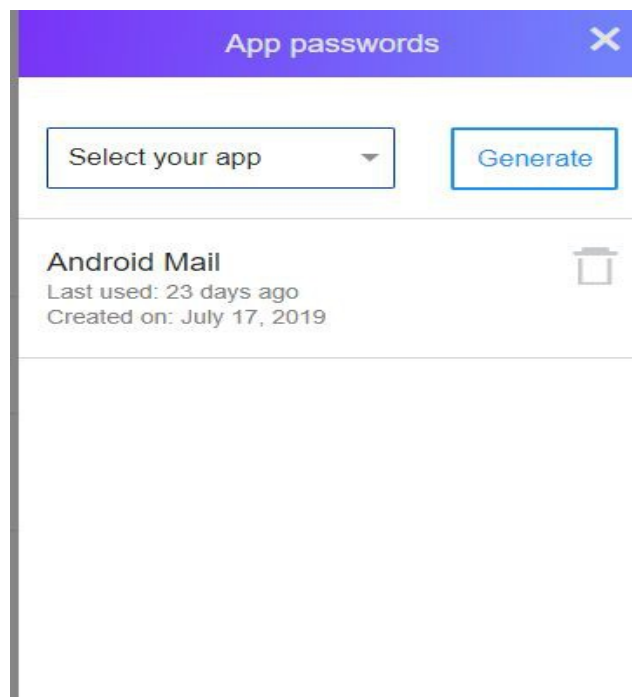

fig 7 View of app passwords on Yahoo account web site for (test)email address turbowin@yahoo.com
3. Generate an app password [<https://uk.help.yahoo.com/kb/account/generate-third-party-passwords-sln15241.html>] [see note 1 below and fig 6 and fig 7]